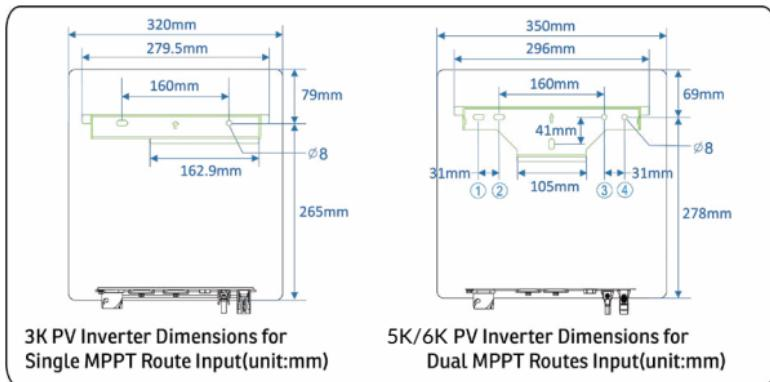

Figure 4.10 Determine the positions for drilling holes (unit: mm)
**Step 2** Determine the positions for drilling holes (as shown in **Figure 4.10**) using the rear panel.